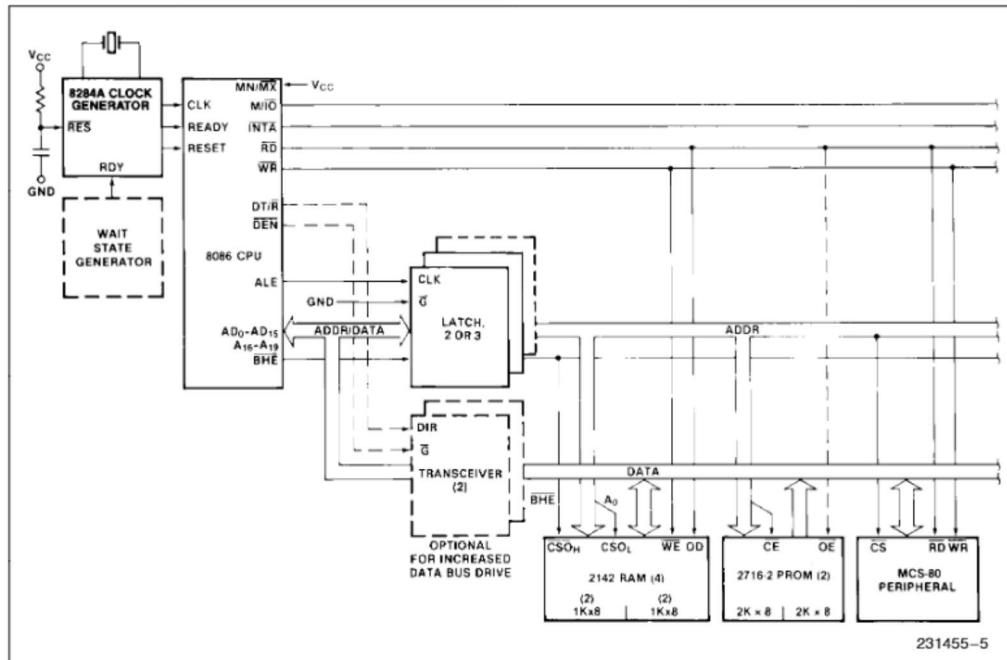
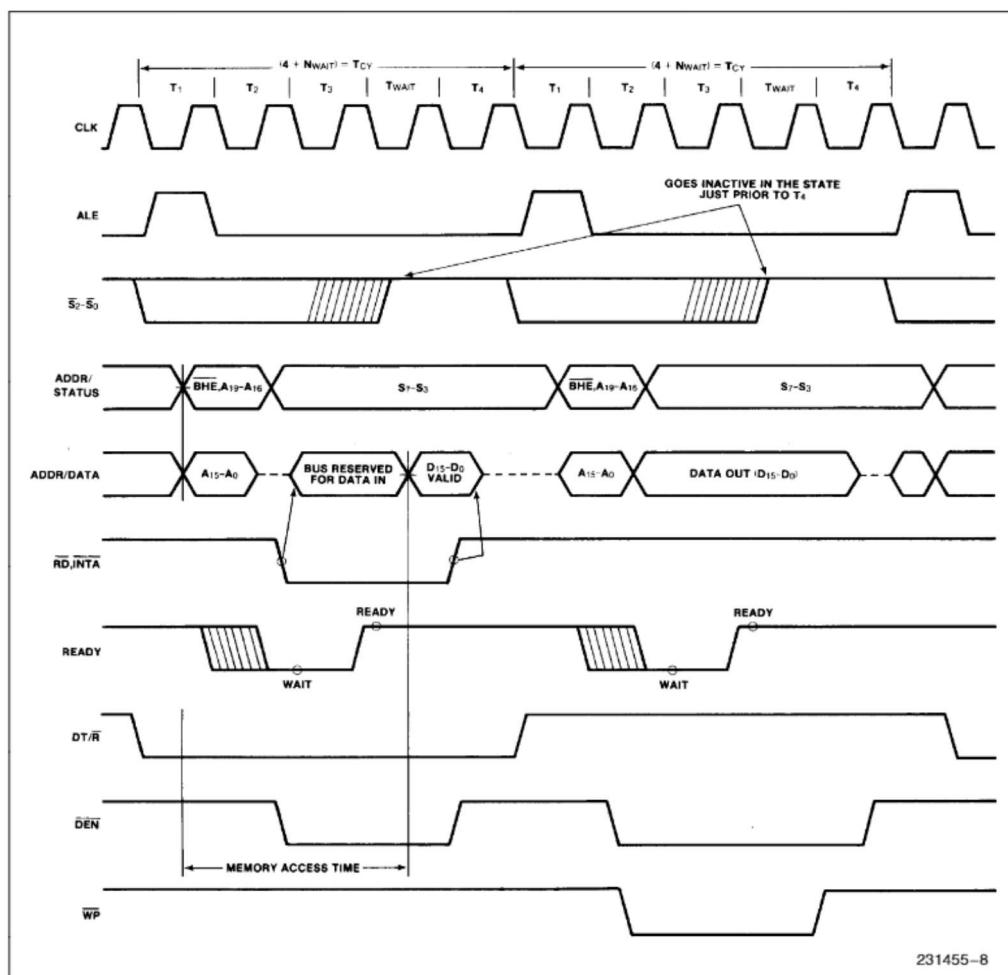

Figure 4a. Minimum Mode 8086 Typical Configuration
Figure 5. Basic System Timing
Each processor bus cycle consists of at least four CLK cycles. These are referred to as T1, T2, T3 and T4 (see Figure 5). The address is emitted from the processor during T1 and data transfer occurs on the bus during T3 and T4. T2 is used primarily for changing the direction of the bus during read operations. In the event that a "NOT READY" indication is given by the addressed device, "Wait" states (TW) are inserted between T3 and T4. Each inserted "Wait" state is of the same duration as a CLK cycle. Periods
Typical system configurations for the processor operating in minimum mode and in maximum mode are shown in Figures 4a and 4b, respectively. In minimum mode, the MN/MX pin is strapped to VCC and the processor emits bus control signals in a manner similar to the 8085. In maximum mode, the MN/MX pin is strapped to VSS and the processor emits coded status information which the 8288 bus controller uses to generate MULTIBUS compatible bus control signals. Figure 5 illustrates the signal timing relationships.